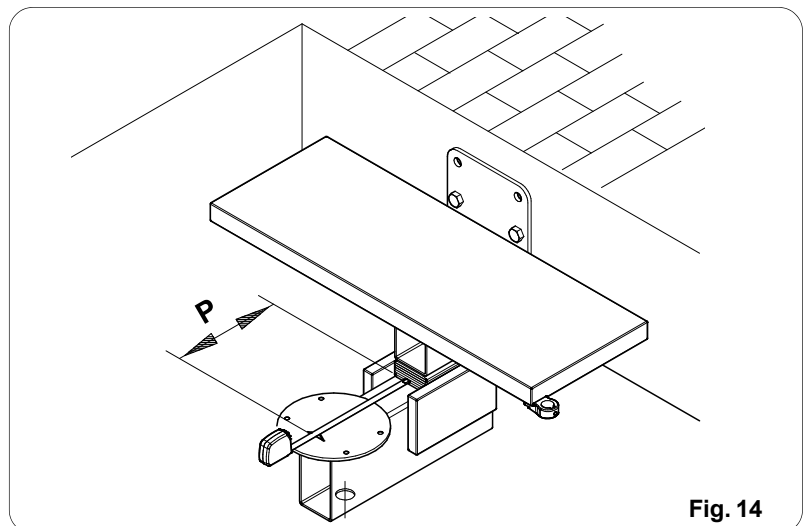

Fig. 14
- Now adjust the module according to the “**P**” tread size. This value must be measured starting from the front part of the spacer package until the reference present on the support flange as shown in fig. 14. Fully tighten the **K127** screw which was previously left loose, paying particular attention to the position of the spacer package, which needs to remain aligned with the support. The use of a rigid reference guide is recommended to be applied to the sides of the pipe with clamps during the operation.